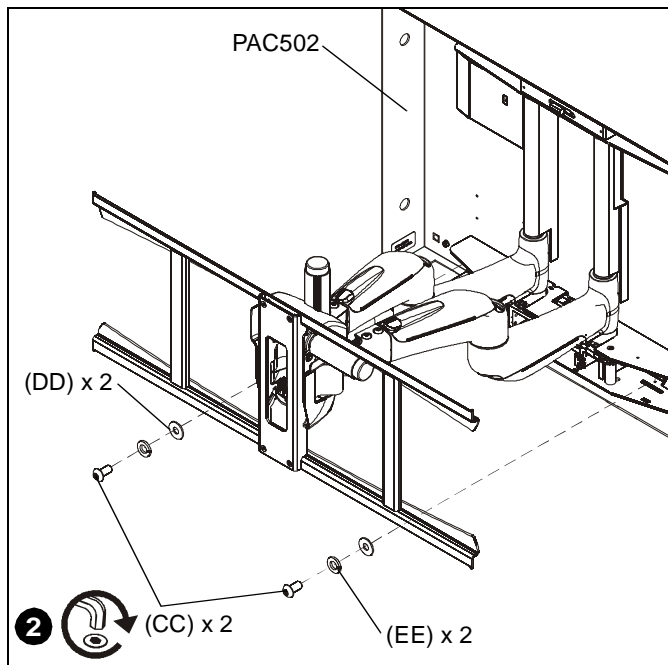

Figure 19
10. Secure bottom of PXR in PAC502 using two 5/16-18 x 5/8" button head cap screws (CC), two 5/16" split lock washers (EE), and two 1/4" flat washers (DD). (See Figure 19)